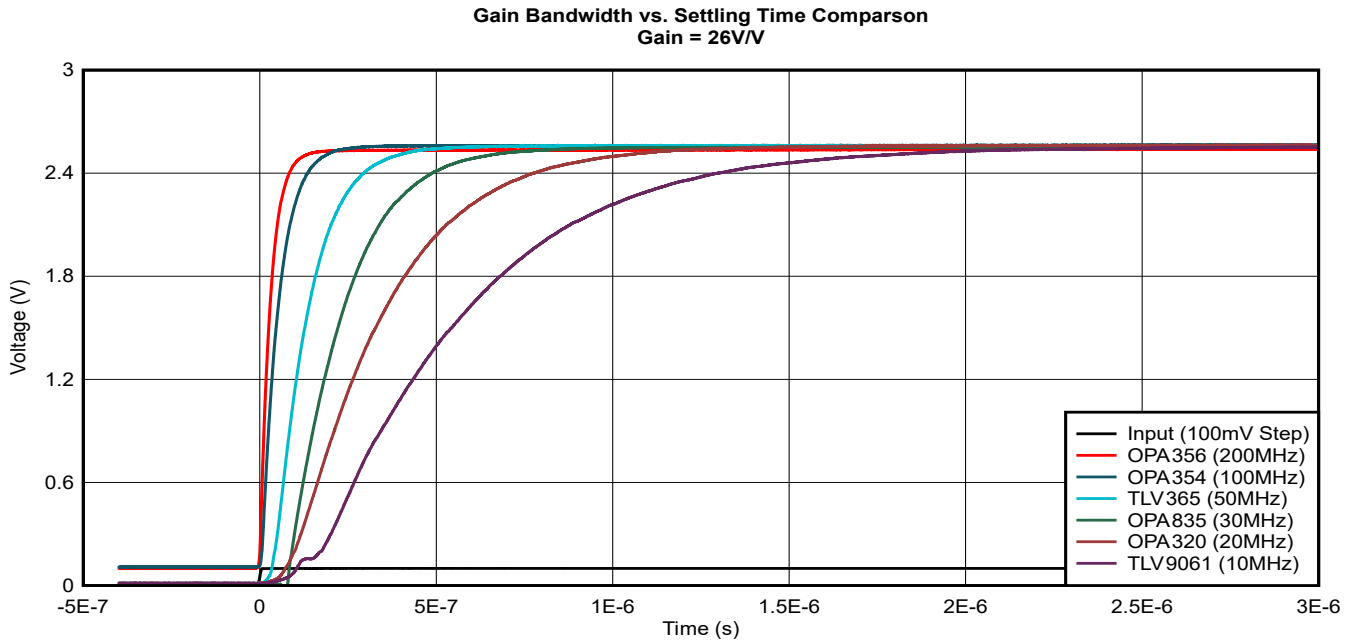

Figure 5. Rise Times of Several TI Amplifiers
Texas Instruments (TI) offers a variety of amplifiers for different system requirements. Figure 5 is a graph demonstrating rise times of several amplifiers with increasing bandwidth, and Table 1 is a comparison chart of the rise time.